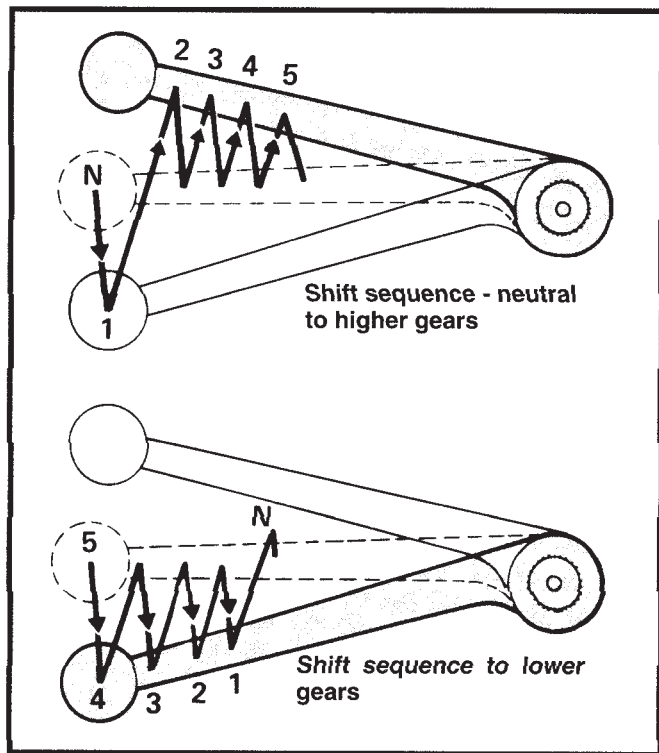

Figure 25. 5 - Speed Shifting Sequence
See Figure 2. To start moving with motorcycle upright and engine idling, pull the clutch lever (6) to fully disengage clutch. See Figure 25. Push shifter lever down firmly, but gently, to end of its travel to engage first gear. Then release the clutch lever slowly to engage the clutch and at the same time, open throttle gradually.